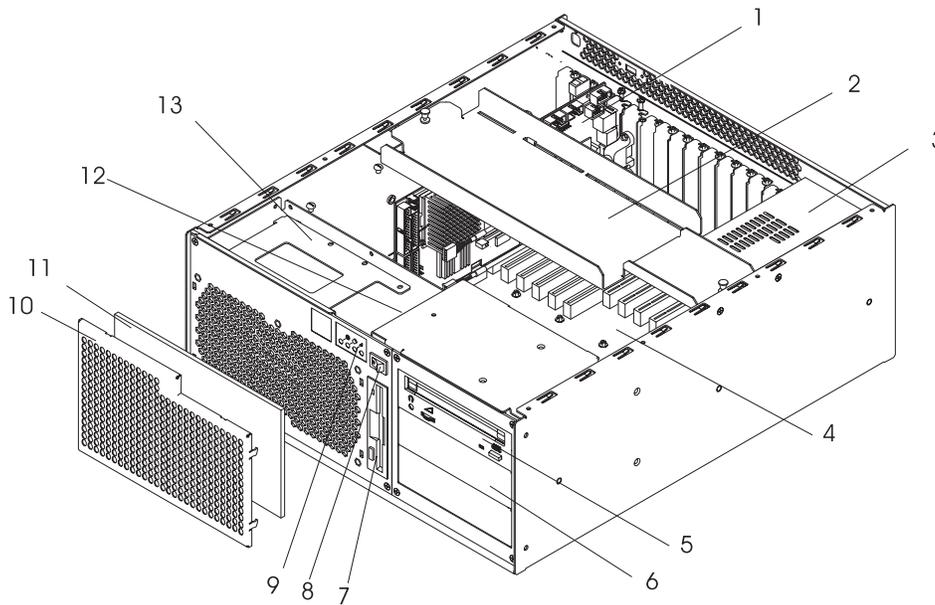
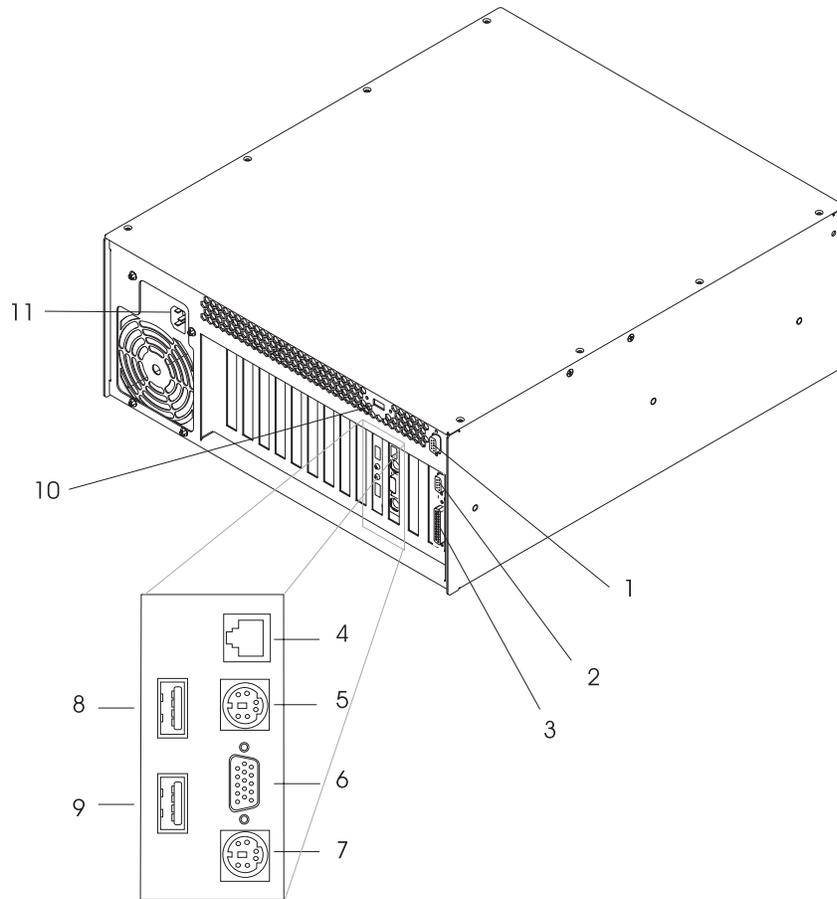

Figure 2. General Component Layout 1
Figure 3. General Component Layout 2
**Note:** An additional half-length ISA slot can be configured. However, this slot is used for the USB connectors and to make room for memory in bank 1. Using this slot prevents memory from being installed in bank 1 and limits you to one USB connector, which must be relocated to the alternative location (see Figure 3 on page 3).
Figure 2 and Figure 3 on page 3 show the locations of the major components in the system unit. The actual options and adapters for a specific configuration might be different from the ones listed; however, the general layout is the same for all configurations.